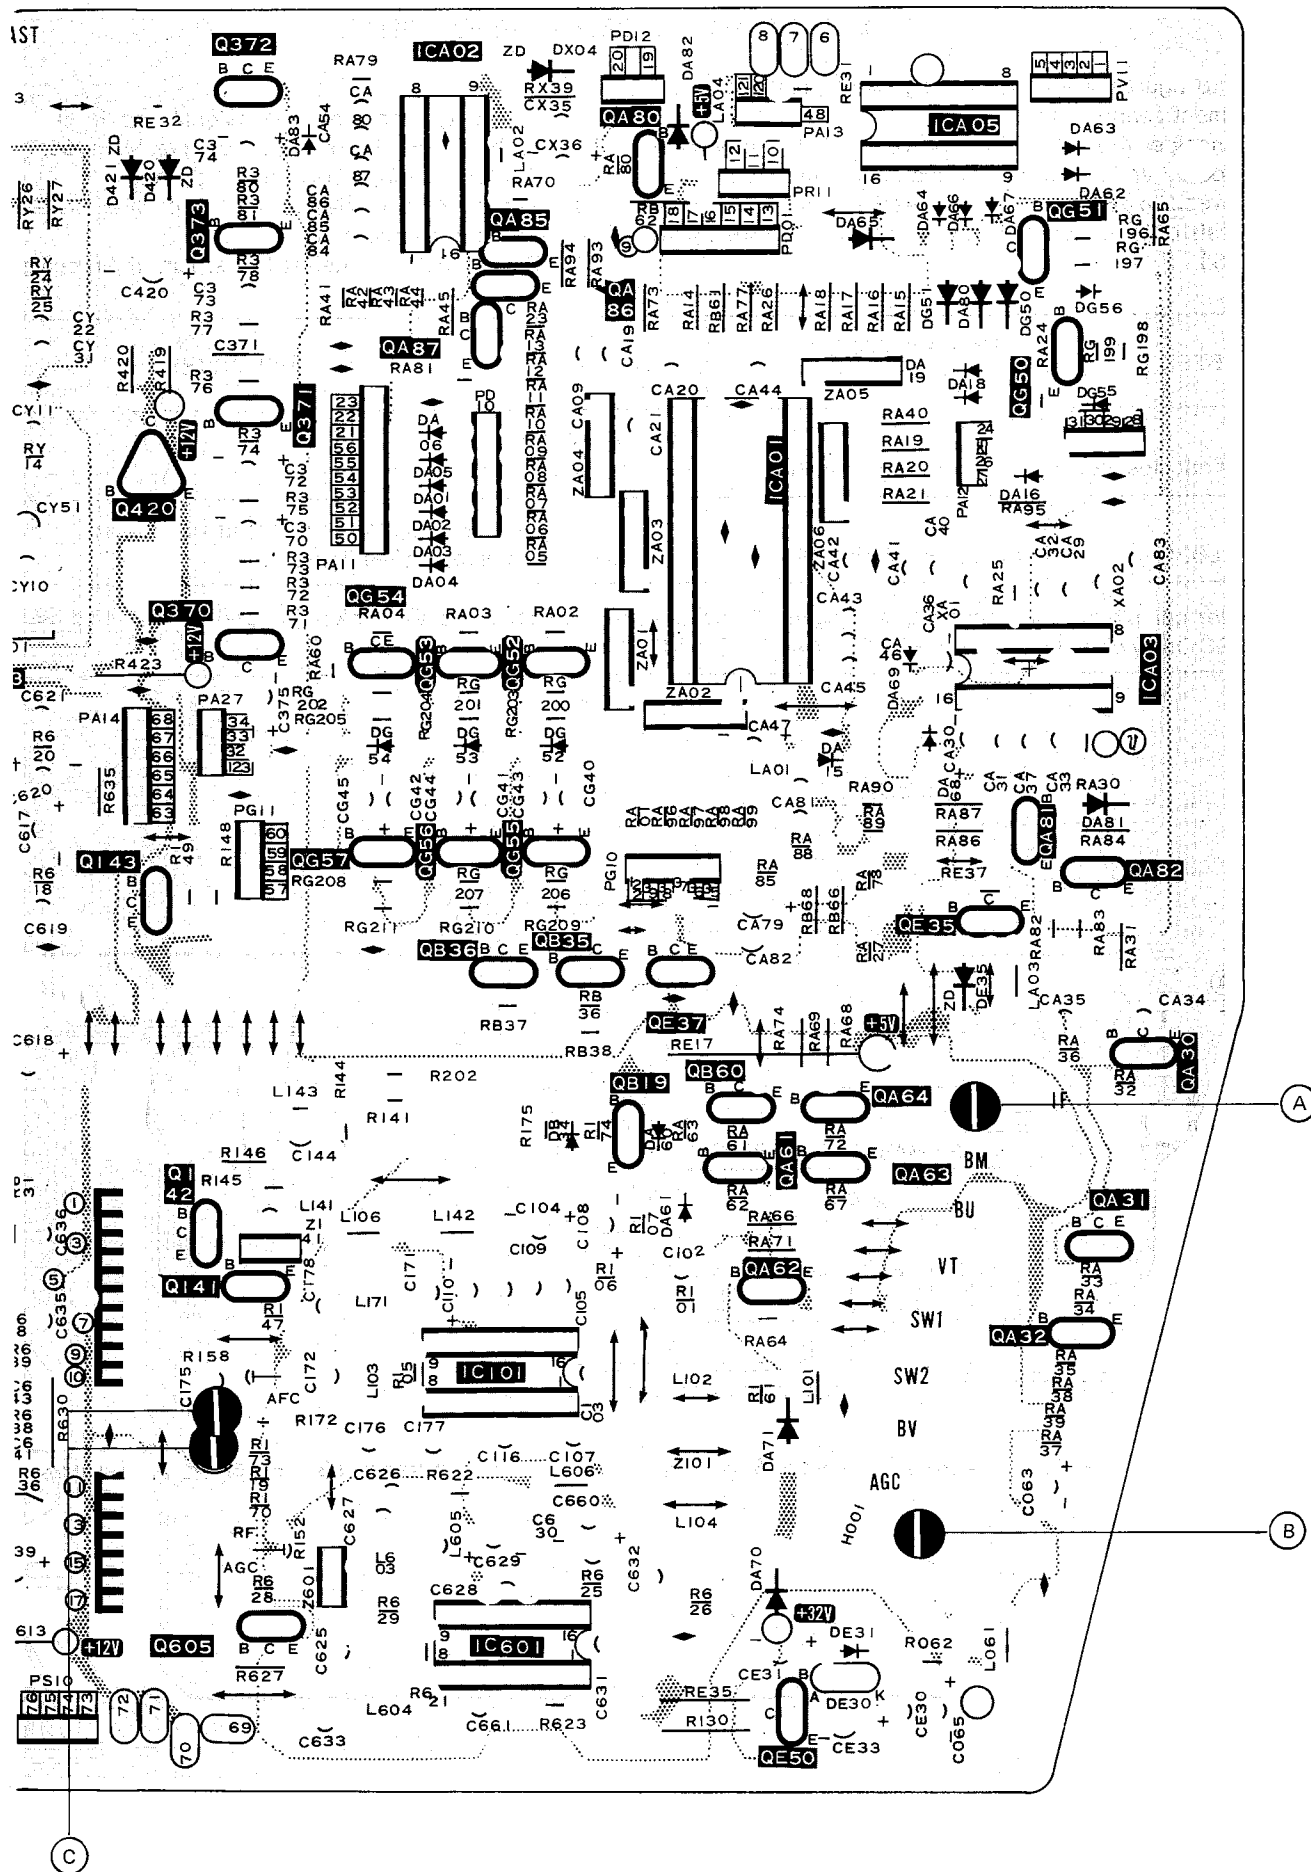

Figure 14. Solder Links on Main Board (Foil Side)
1. Unsolder the solder link (A) on the foil side of Main Board and connect a matching pad from the sweep/marker generator in series with a 10k ohm resistor to the junction of L101 and solder link (A). (See figure 14.)
2. Connect an oscilloscope (signal input) with direct probe to terminal TP-12 on the Main Board (See figure 14.) through 100k ohm resistor.
3. Apply +7.3 volt bias to terminal TP-14 on the Main Board. (See figure 14.)
7. If the response on oscilloscope appears unstable, unsolder the solder link (B) (AGC pattern) temporarily. (See figure 14.)
1. Unsolder to open the solder links (A) and (C) on the Main Board. (See figure 14.)
Refer to figure 14 and 17 for alignment point and test equipment connections.